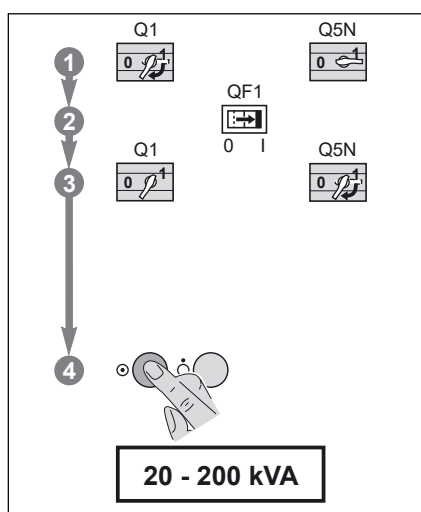

Fig. 21
See figure 21.
In addition to keypad operations, the graphical display brings up a window giving the overall device status. The message displayed is then said to be primary (see list in the paragraph below). A primary message can be used to access the measuring tables using keys (14), (15), (16) and (19) on the keypad (see figure 21 in the general appendix). The configuration screens can be accessed by pressing key (13). A flashing arrow appears at the end of a primary message if there is a problem or an alarm; secondary messages can be accessed by pressing key (10) on the keypad (see the list of secondary messages). The presence of another message is indicated by the arrows ↓ and ↑ at the end of the secondary message. They can be accessed by pressing keys (10) and (11) on the keypad. The return to the primary message is automatic after a 2 minute time delay or by pressing key (18) on the keypad.